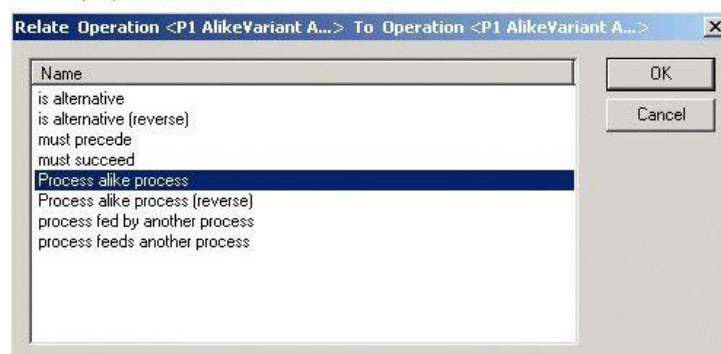

Figure 212: Marking Processes of the same Type via Relation
- 4) Click **OK** button to confirm. Both processes are marked as processes of the same type. Please refer to the Figure 212.